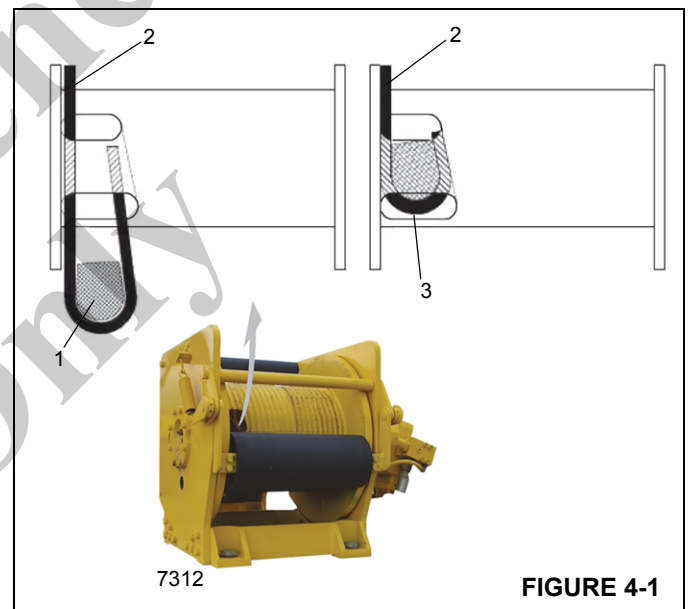

FIGURE 4-1
3. Insert the cable through the slot and position around the anchor wedge (1) (Figure 4-1).